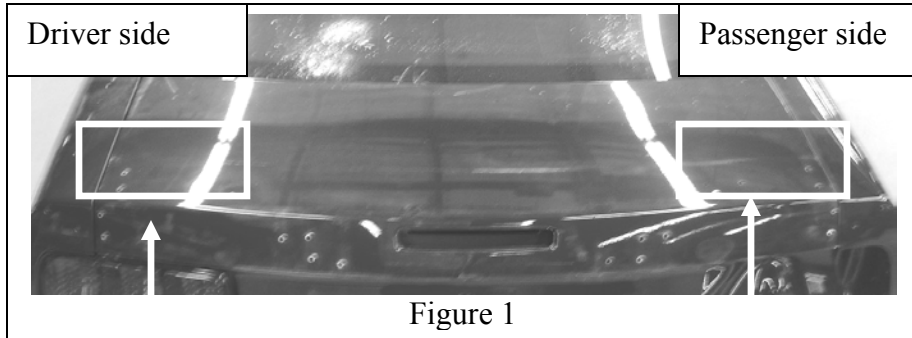
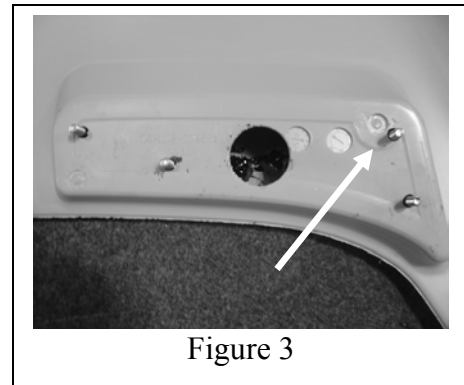

Figure 1
Figure 3
1. The two boxes in Figure 1 show the location of the holes that will be drilled in the deck lid to mount the rear wing.
3. Figure 3 is a close-up of the passenger side of the wing. You will use the stud indicated in Figure 3, as well as the one similarly located on the driver side of the wing, as a marker to properly place the holes in the deck lid. The stud indicated in Figure 3 will go into hole "B" shown in the deck lid in Figure 4. Figure 4 is a close-up of the passenger side of the deck lid (Figure 1).
8. Place a dab of torque seal on the bottom of each stud in the wing. Using two people to hold the wing, line up the outboard rearward holes in the wing (Figure 3) with the marked rearward outboard hole locations in the deck lid ("B" in Figure 4; see also Figures 5,6). The leads of the wing go toward the front of the car; see the photo on the cover page of this manual, as well Figure 3, to properly orient the wing.